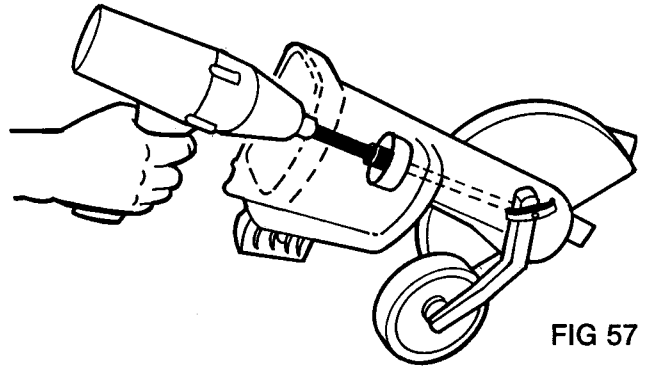

FIG 57
2. After removal of motor use an extension drive or an impact wrench fitted with a 9/16" socket (Fig 57).